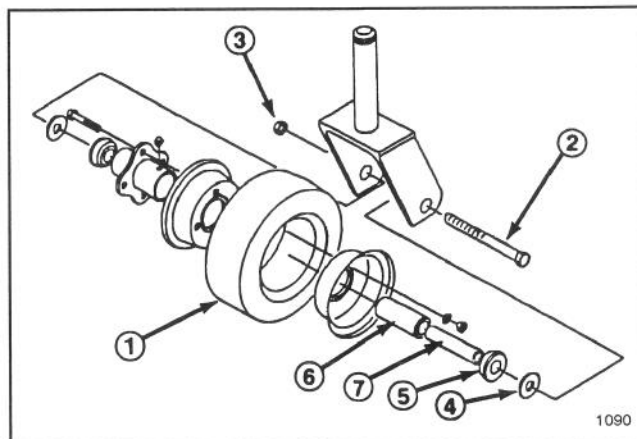

Figure 9
1. Remove lock nut and wheel bolt holding castor wheel between castor fork (Fig. 9).
4. Inspect bearing, spanner, bushing and inside of wheel hub for wear. Replace defective parts (Fig. 9).
5. To assemble place one (1) bushing into wheel hub. Grease bearing and spanner bushing and slide into wheel hub. Place second bushing into wheel hub.